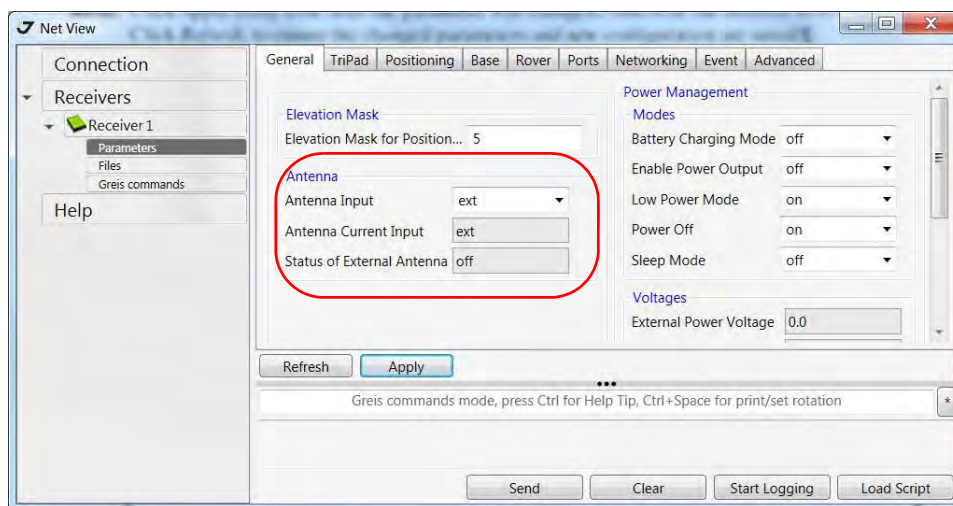

Figure 12. General tab
3. In the *General* tab set the parameter *Antenna Input* to *External* (Figure 12).